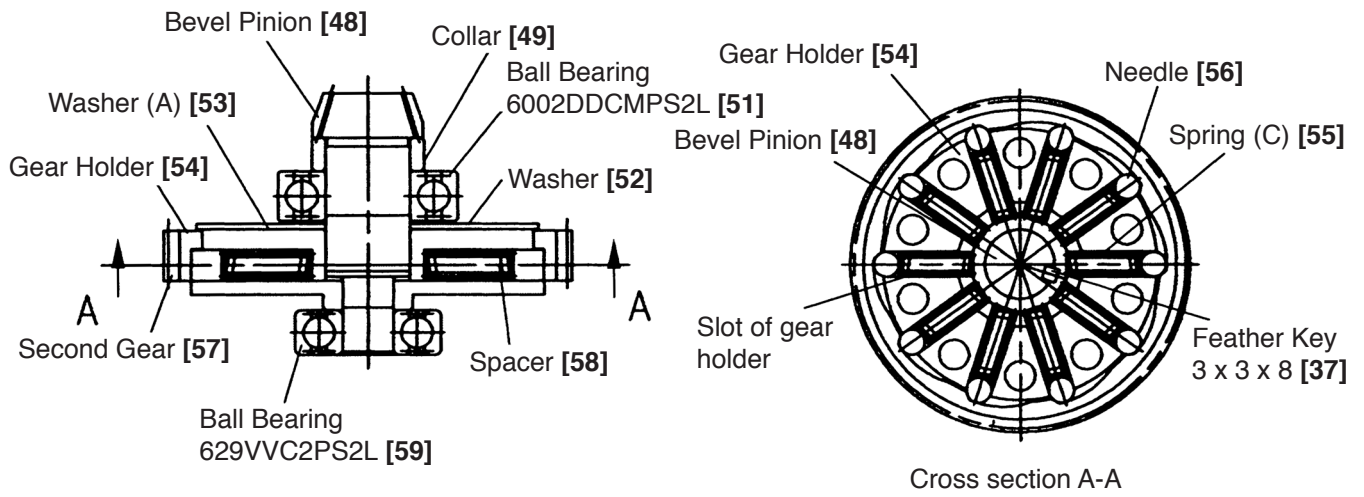

Fig. 25
(5) Reassembly of the slip clutch assembly
Press-fit the Bevel Pinion [48] into the Collar [49] and the Ball Bearing 6002DDCMPS2L [51] then insert it into the Washer [52] and Washer (A) [53]. Mount the Feather Key 3 x 3 x 8 [37] to the Bevel Pinion [48] then press-fit into the Gear Holder [54]. Mount the Second Gear [57] around the outer circumference of the Gear Holder [54]. Before mounting, apply Hitachi Motor Grease No. 29 to the inner circumference of the Second Gear [57]. Insert the ten Needles [56] being careful not to incline them, then push in ten Springs (C) [55] as shown in Fig. 25. Fill the slots and the through holes of the Gear Holder [54] with Hitachi Motor Grease No. 29. Press-fit the Bevel Pinion [48] into the Spacer [58] and the Ball Bearing 629VVC2PS2L [59].